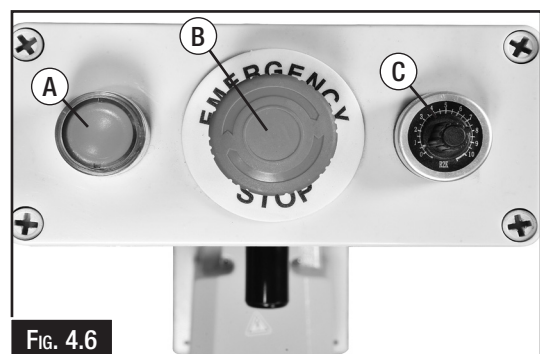

Fig. 4.6
2. Press the Emergency STOP button (B in Fig. 4.6)
4. Reset the EMERGENCY STOP button by twisting the top until the top pops up, then press the ON button. (A in Fig. 4.6)
6. Check the speed control (C in Fig. 4.6) by adjusting the speed control knob up and down.
7. Hold the pedal down and press the Emergency stop button (B in Fig 4.6) and the machine should stop.
9. Reset the emergency stop button (B in Fig. 4.6) and press the ON button (A in Fig. 4.6) then press the foot pedal and the machine should work.